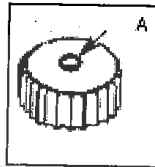

Fig. 12A
**NOTE:** Keep the air-relief valve (A) and tank cap clean (Fig. 12A).